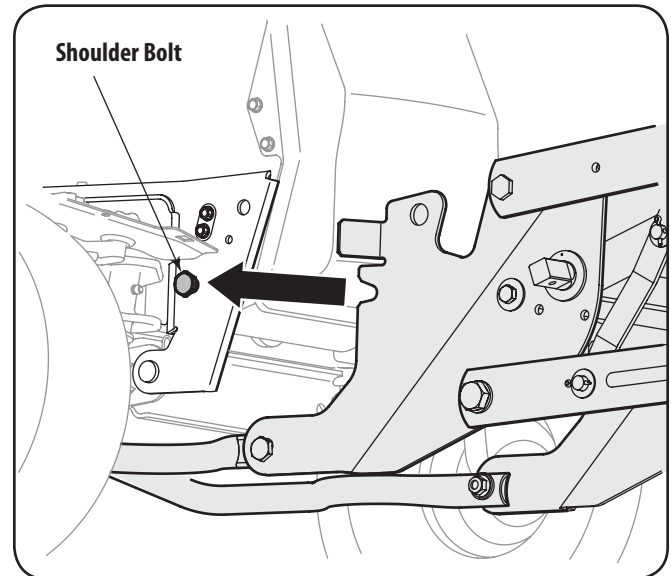

Figure 3-9
4. With the help of an assistant, lift up the auger housing and move it so that it rests over the shoulder bolts found on tractor See Fig. 3-9.
Note: On some units it may be necessary to install the shoulder bolts onto the tractor. Simply install the bolts as shown in Fig. 3-9 and secure with a flange lock nut. Both hardware parts are included in your hardware pack.